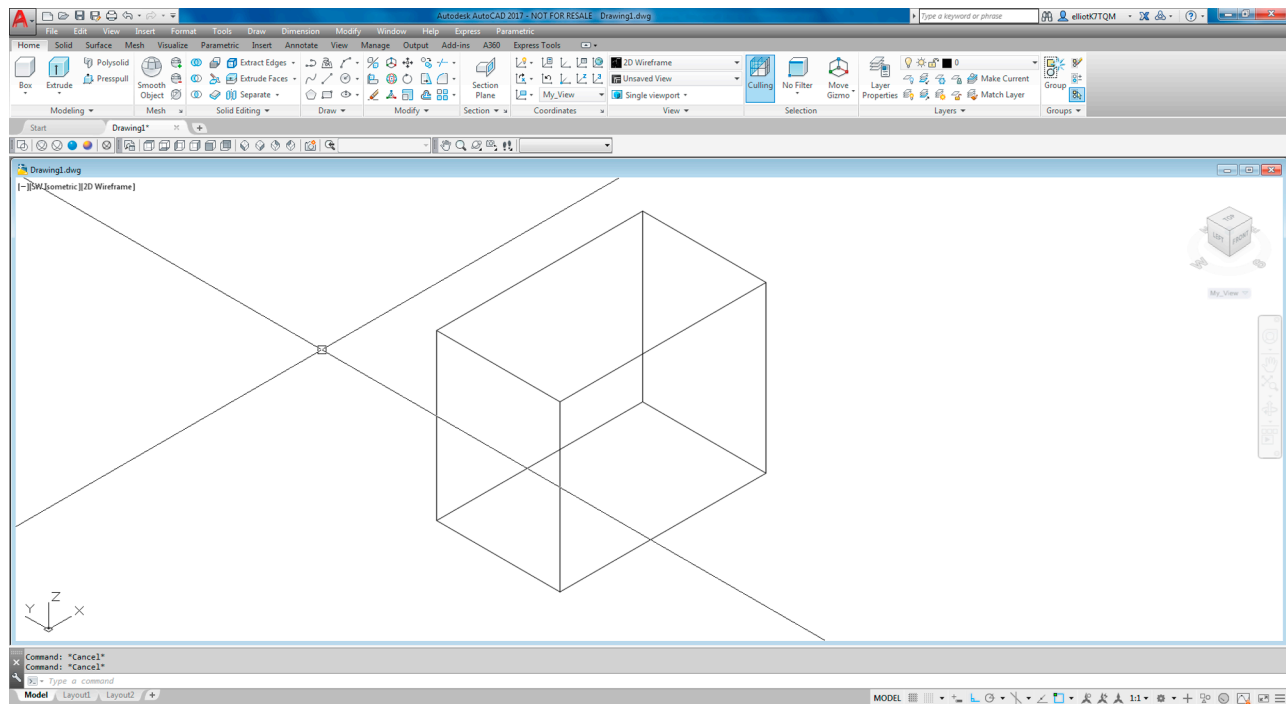

FIGURE 21.14 Method 1, Step 3. Completed 3D box.
Step 3. Copy the rectangle from the bottom to the top, or draw a new one from precise endpoints of the lines. The result is seen in Fig. 21.14.
If you were using AutoCAD 2014 or earlier version, you would now complete the box using standard drafting techniques and draw a straight line starting from one of the rectangle's corners and continuing up 8" (using Ortho and OSNAP points, of course). You would then copy it to the other three corners and copy the bottom four lines (or rectangle) to the top, thereby creating a box. You would have arrived at the same as Fig. 21.14.